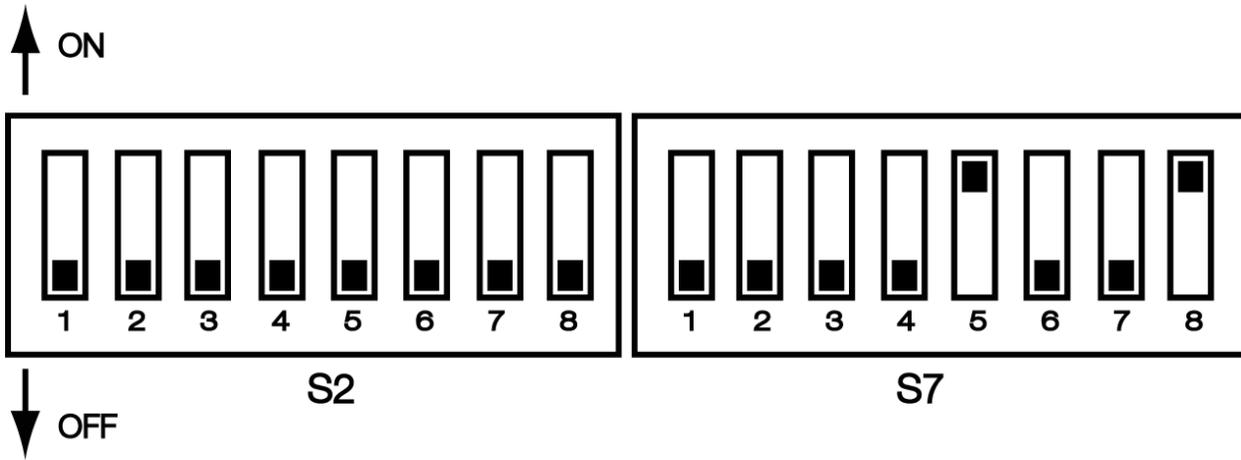

Figure 2.2: S2 & S7 DIP Switch Required Settings
4. On the baseboard, set DIP switches S7:5 and S7:8 to **ON** and all other switches to **OFF** (see Figure 2.2).
3. On the baseboard, set DIP switches S7:5 and S7:8 to **ON** and all other switches to **OFF** (see Figure 2.2).